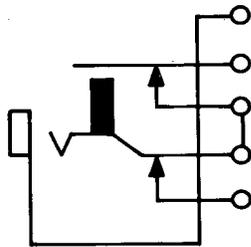

Fig. 15—484C Jack
2.10 484C: This single-mounted jack (Fig. 15) is intended to be mounted with the springs in a vertical plane. This jack is designed to be used with the 347 or similar-type plugs. The 484C jack replaces the 216G jack.